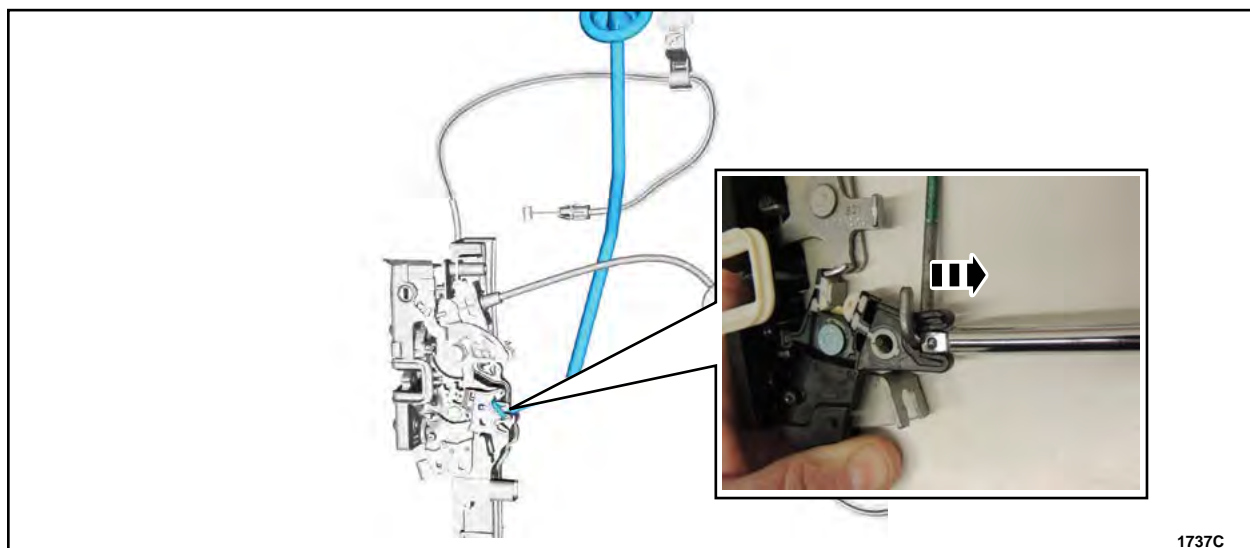

FIGURE 52
2. Remove the lock rod assembly from the rear door latch. See Figure 52.